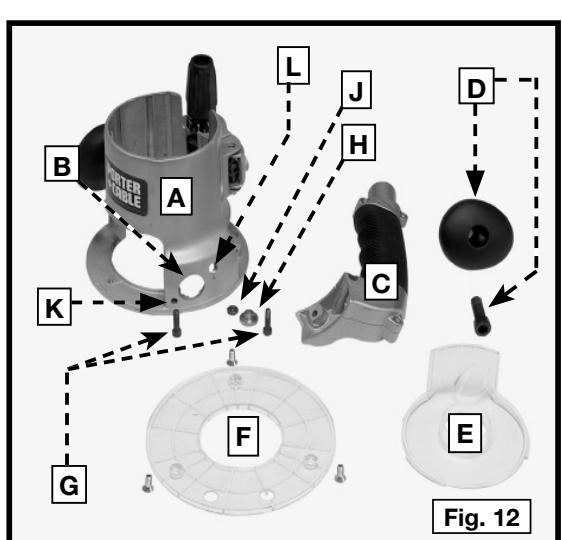

Fig. 12
GRIPVAC™ PARTS (FIG. 12)
2. Remove the plastic plug from the dust port (B) Fig. 12.
5. Insert a hex screw (G) Fig. 12 through the handle into the hole (L). From inside the base housing, place a shoulder washer (H) and a hex nut (J) on the screw. Tighten the nut loosely.
6. From inside the base housing, insert the second screw (G) into the hole (K) and screw it into the threaded hole of the GripVac™ handle.